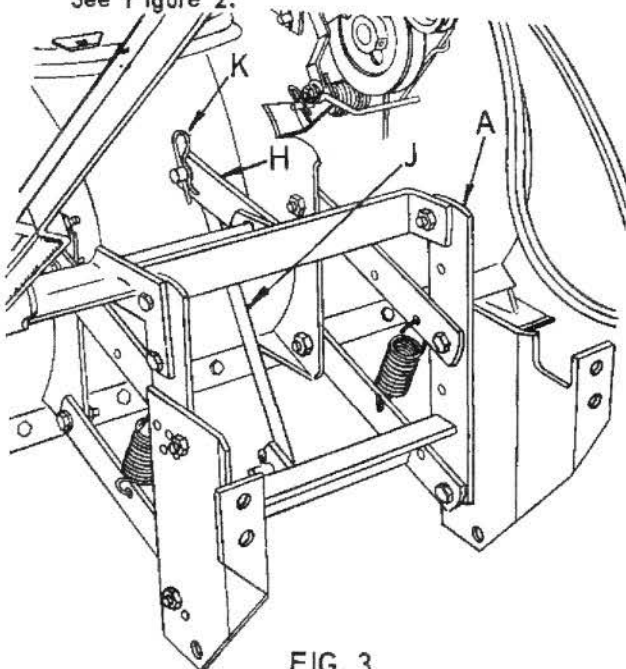

FIG. 3
6. Refer to Fig. 3. Assemble pivot frame weldment (H), to hanger weldment (A), with 3-3/8 x 1-1/4 hex bolts and gripco nuts as shown. NOTE: Heads of bolts to outside. Tighten bolts securely. Bolts and nuts will be found in plastic bag.
7. Assemble lift link (J), to hole in arm of pivot frame weldment (H), as shown and secure with retainer spring (K), found in plastic bag.